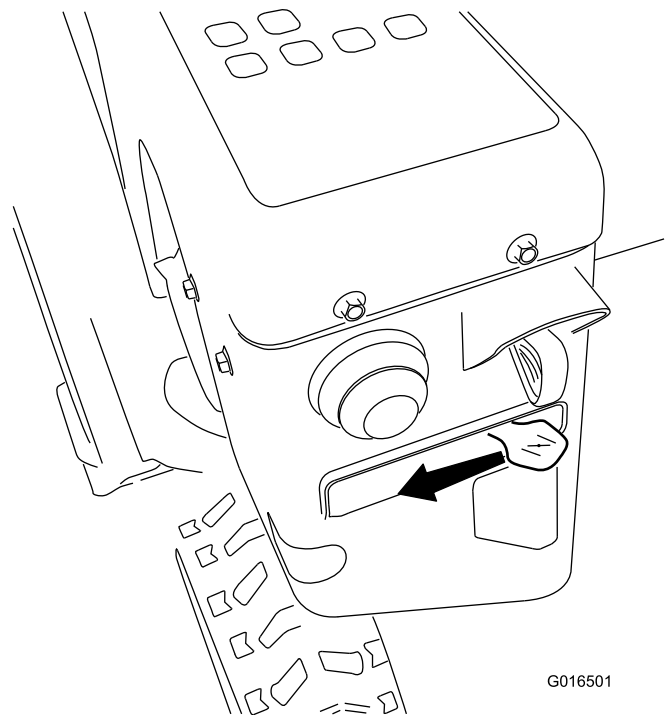

Figure 19
5. Move the choke to the CHOKE position (Figure 19).